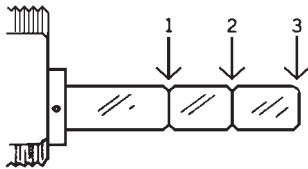

Figure 18.20 Tailpiece break points. (Simplex Access Controls Corp.)
- With two pairs of pliers, break the tailpiece of the key cylinder at the proper location as indicated (Fig. 18.20): (1) for the Simplex 100 or 200 series locks when the riser plate is not used, (2) for 100 series when either $\frac{1}{4}$ - or $\frac{3}{8}$ -inch side of the riser plate is used, or with the 200 series locks when $\frac{1}{4}$ -inch side of the riser plate is used, (3) for 200 series locks with $\frac{3}{8}$ -inch side of riser plate, use full length of tailpiece.